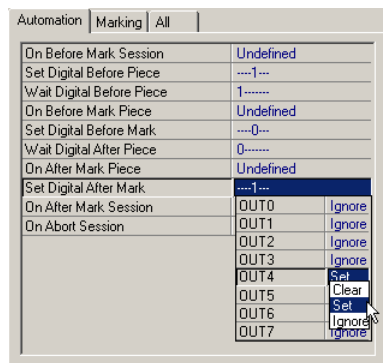

Figure 11-7 Setting “Set Digital After Mark”
- 2 Click *OUT4* then select *Set* from the drop-down list (Figure 11-7).